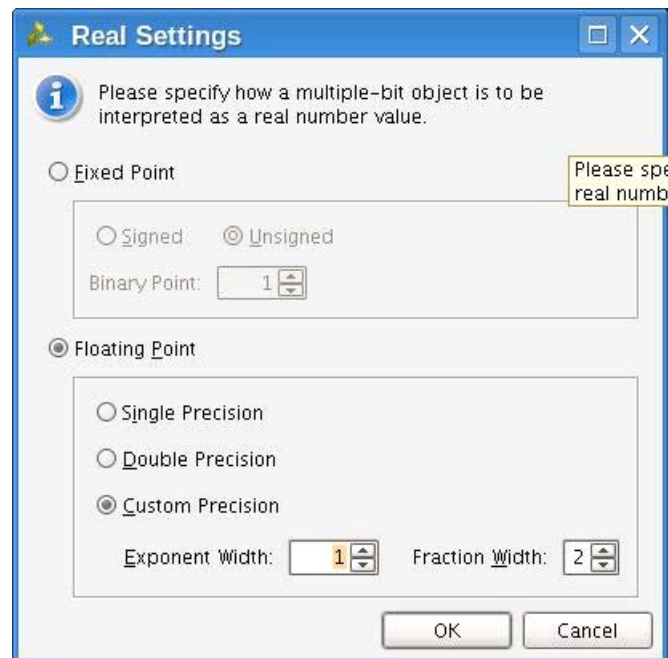

Figure 6-6: Real Settings Dialog Box
- Real radixes cause bus values to be interpreted as fixed point or floating point real numbers, as determined by the settings of the **Real Settings** dialog box, shown in Figure 6-6.